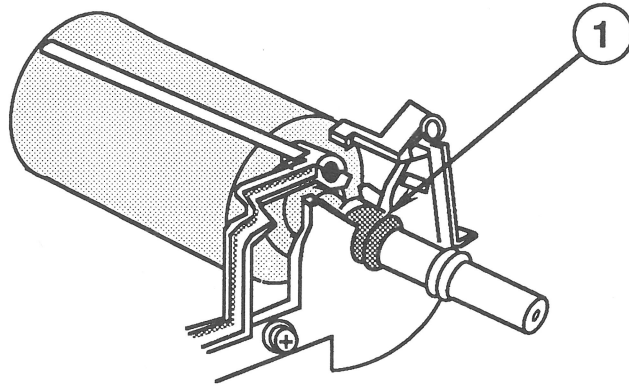

FIGURE 14
2. Move the left and right platen catches (Figure 14, #1) outward until they engage fully with the platen holder.